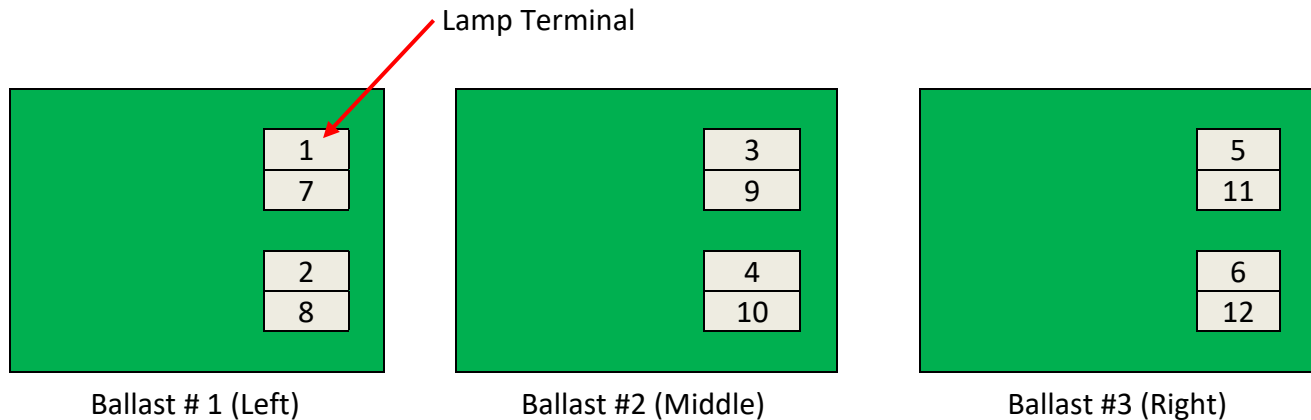

Figure 6-29-1
23. The Lamp wires are numbered. Install the Lamp wires back into the appropriate terminal using Figure 6-29-1 as a guide.